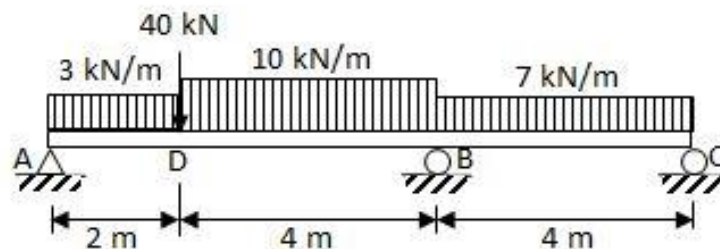

Figure 4
4. A two-span continuous steel beam as shown in **Figure 4** supports uniformly distributed loads of 3 kN/m, 10 kN/m and 7 kN/m along spans AD, DB and BC, respectively and a concentrated load of 40 kN at D. The continuous beam is supported by a pin at A and rollers at B and C. The spans AB and BC of the beams have the second moment of area of 79100 cm⁴ and 57100 cm⁴, respectively. The Young's modulus of the steel beam is 200 GN/m².